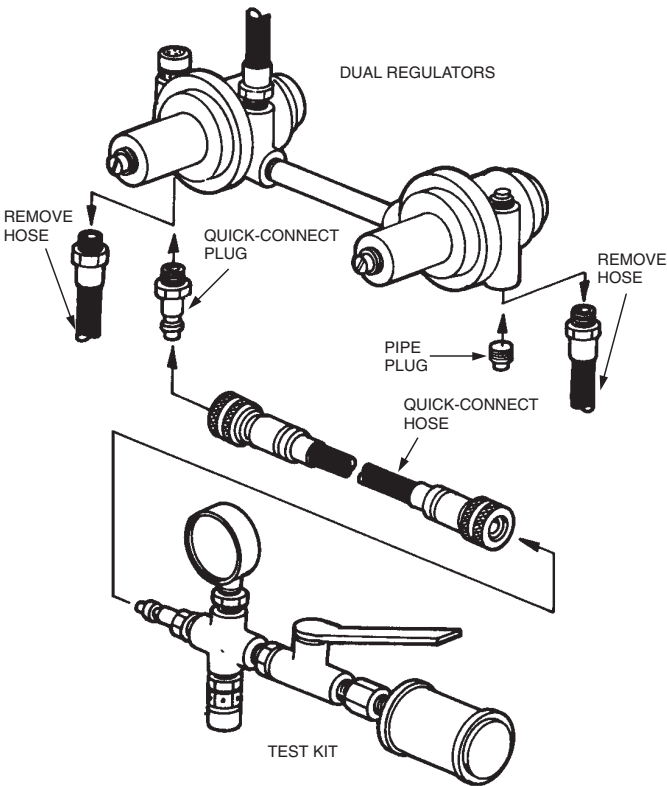

FIGURE 4
- 2. Disconnect low pressure hoses from both regulators being tested. See Figure 4.